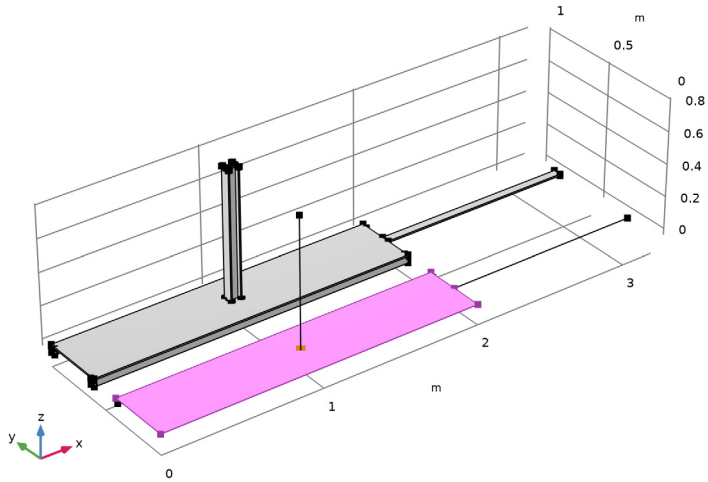

Figure 7: Shell-beam connection with beam normal to the shell.
- The H-section beam is perpendicular to the plate (Figure 7). The endpoint of it is connected to a representative region on the shell surface, using a Boolean expression